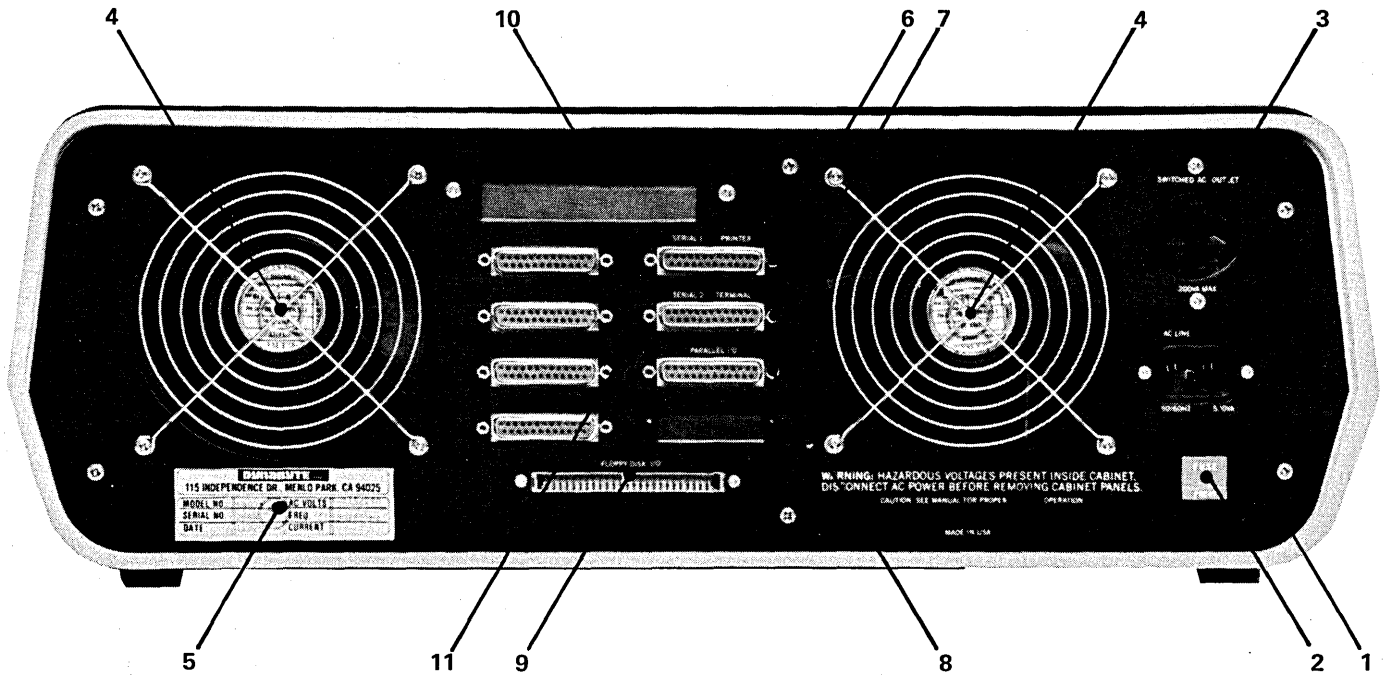
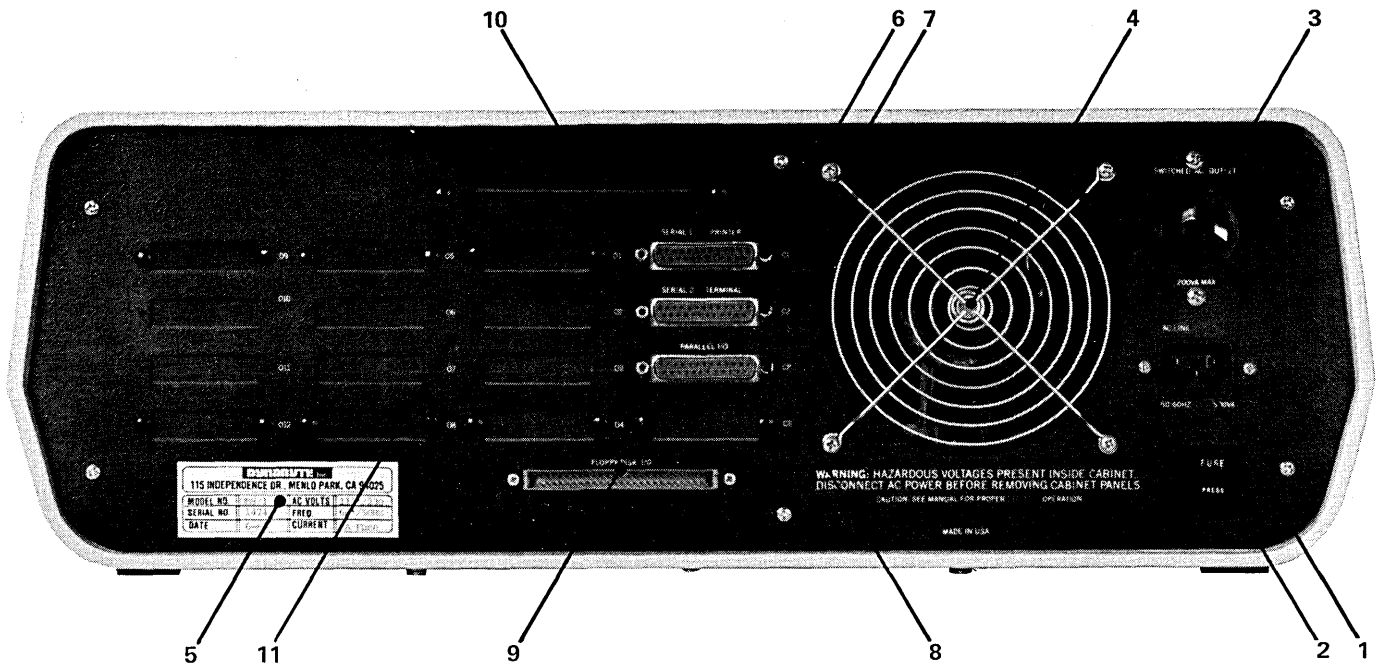

Figure 2-2A – 5100 Computer – Rear Panel – Revision A – 802470
Figure 2-2B – 5100 Computer – Rear Panel – Revision B – 800266
2.06 Figure 2-2A and Figure 2-2B illustrate Revision A and Revision B of the 5100 Rear Panel. The 5100 Computers shipped after August 1, 1980, incorporate a Revision B Rear Panel. Table 2-2 tabulates and describes each of the rear panel elements. Ac line and computer Input Output (I/O) connections are through the rear panel. At the right, the ac line is connected through an IEC connector. This permits the 5100 to be connected domestically to 115 Vac, 60 Hz with a National Electrical Manufacturers Association (NEMA) cord set or internationally with a cord set appropriate for that country. A line fuse provides protection for the 5100 and equipment powered from the ac convenience receptacle above.